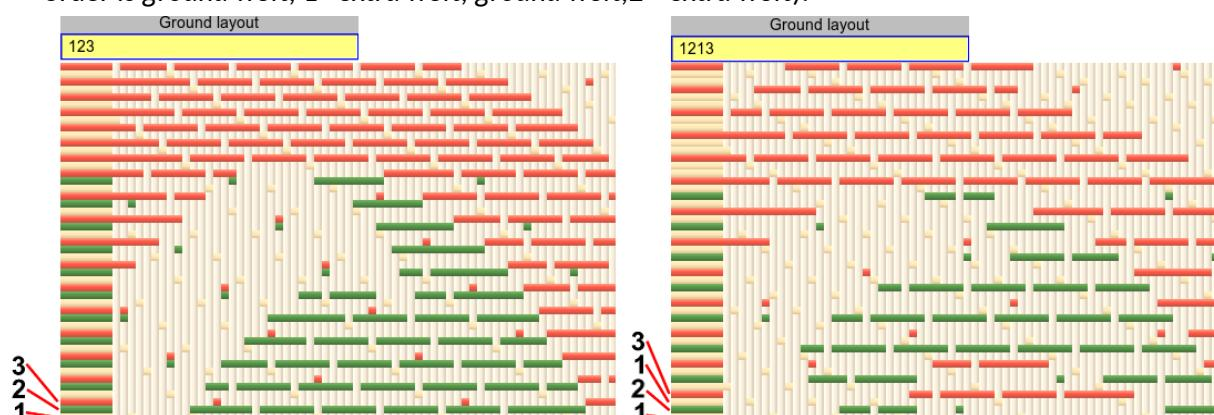

Figure 282: Simple ground layer, and two ground wefts per layer (ground weft is yellow)
4. **Ground layout** is a powerful feature for setting different densities (number) of wefts in each layer. If the field is empty, than program takes simple order of wefts, like *ground weft, 1st extra weft, 2nd extra weft, ground weft, 1st extra weft, 2nd extra weft* and so on (as it is a default, you don't need to write it in the **Ground layout** field; empty field simply means the layout of 1234..). Figure 282 shows ground and two extra wefts in simple order 123 (*ground weft, 1st extra weft, 2nd extra weft*), and more complex **ground layout**, written as 1213, where 1 means ground, 2 and 3 are extra wefts (so order is *ground weft, 1st extra weft, ground weft, 2nd extra weft*).